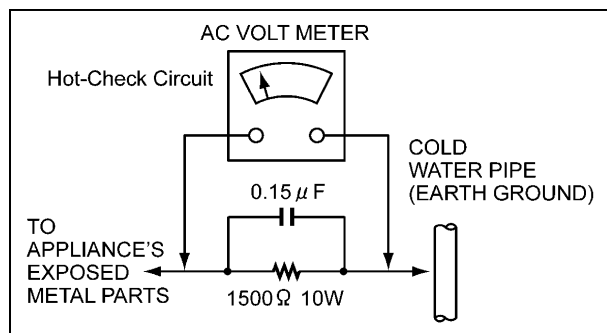

Figure1
LEAKAGE CURRENT HOT CHECK (See Figure 1)
2. Connect a $1.5k\Omega$, 10W resistor, in parallel with a $0.15\mu F$ capacitor, between each exposed metallic part on the set and a good earth ground such as a water pipe, as shown in Figure 1.